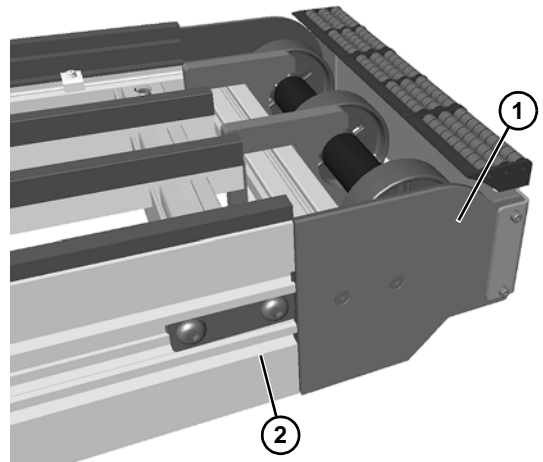

Figure 100
*When reinstalling the drive spindle tail assembly, the drive tail assembly (**Figure 100, item 1**) should mate flush with the conveyor frame (**Figure 100, item 2**).*